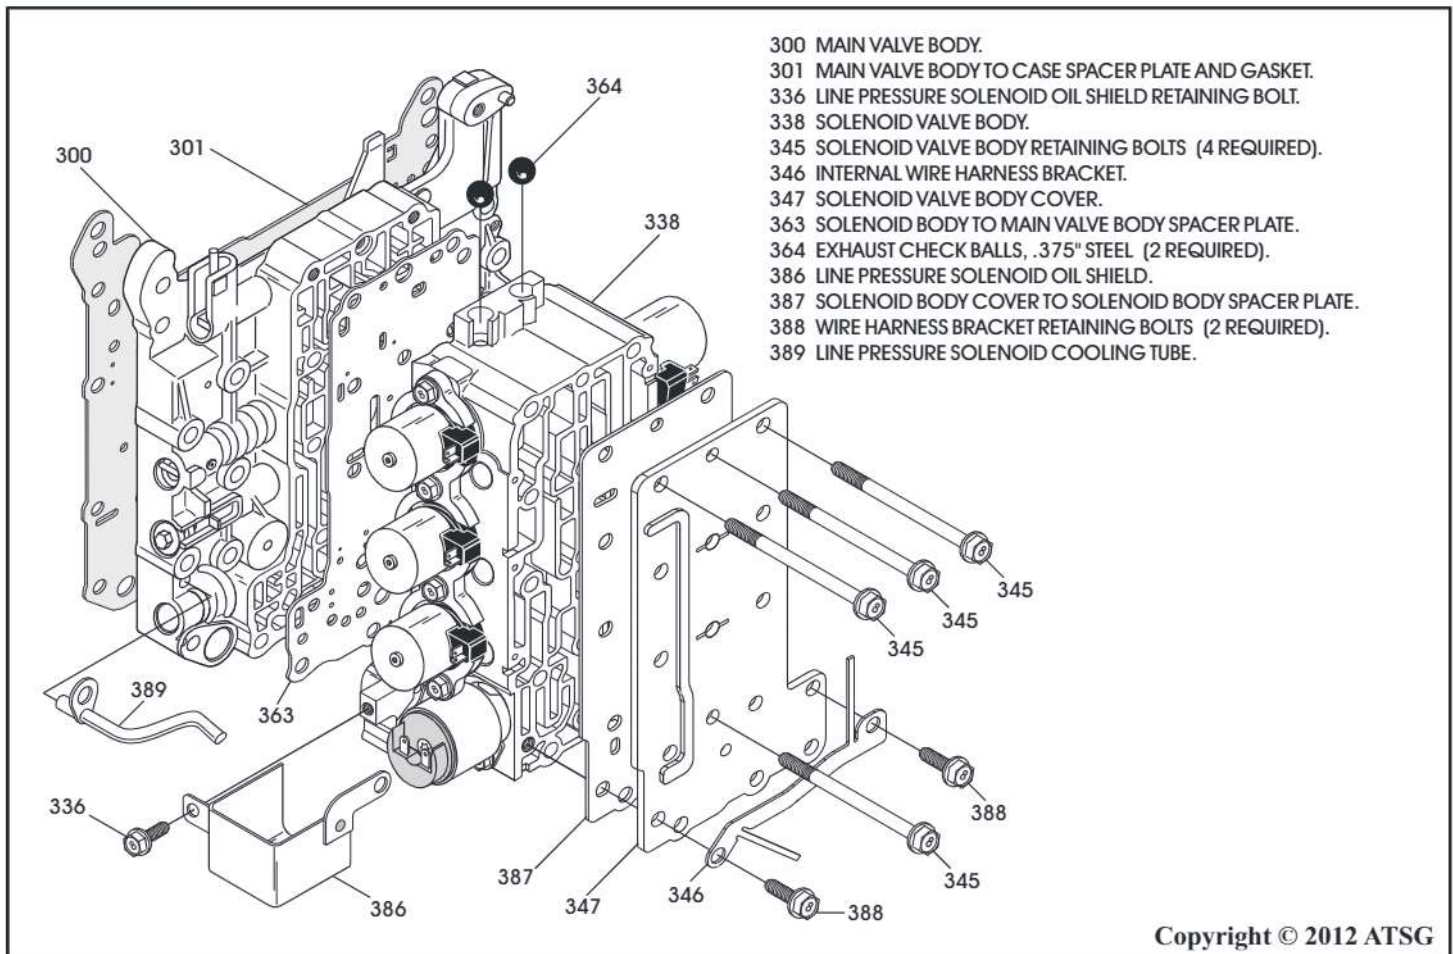

Figure 232
36. Install the solenoid body spacer plate, solenoid valve body, solenoid body cover spacer plate, and the solenoid valve body cover, as shown in Figure 232.
37. Install the four solenoid body to main valve body bolts in locations shown in Figure 232.
38. Install the internal wire harness bracket and two retaining bolts, as shown in Figure 232.
39. Install the (VFS) line pressure solenoid cooling tube, as shown in Figure 232.
40. Install (VFS) line pressure solenoid oil shield and retaining bolt, as shown in Figure 232.